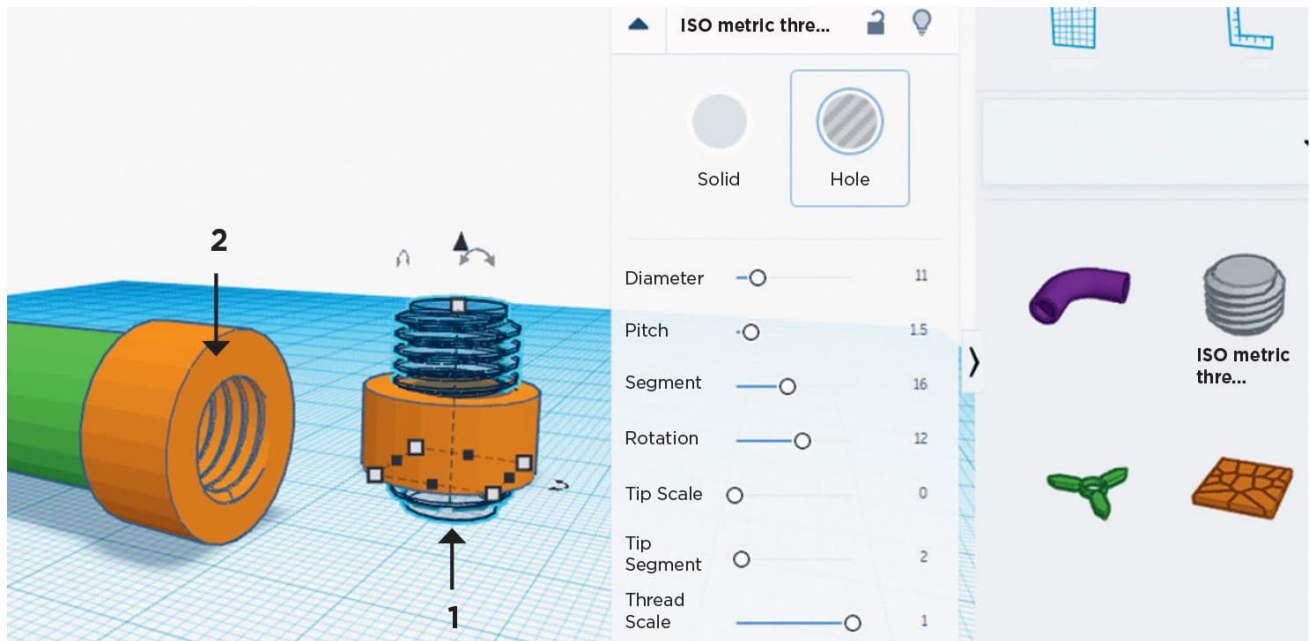

FIG. 8: Add the nut portion of the fastener to the body casing.
9. We will also need to make the corresponding nut in the body casing for the bolt to screw into. To create the nut we create a hole (in the shape of the iso metric thread tool) in a cylinder about the same diameter as the body casing. Note that the diameter of the Iso Metric Thread tool for the nut must be 0.5 mm more than the diameter of the Iso Metric Thread tool for the bolt for smooth mating of the nut and bolt. Fig. 8 shows the creation of the nut in arrow 1, and the nut mounted on the body casing in arrow 2.